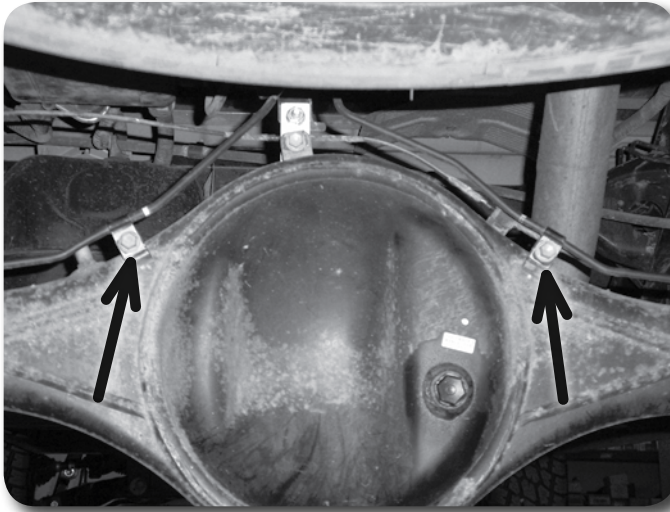

Figure 57
14. Flip the two remaining brake hardware line clips and reattach to the original locations on the back of the axle **Figure 57**. The lines will now be running above the mount bolts instead of below. Torque bolts to 10 ft-lbs.